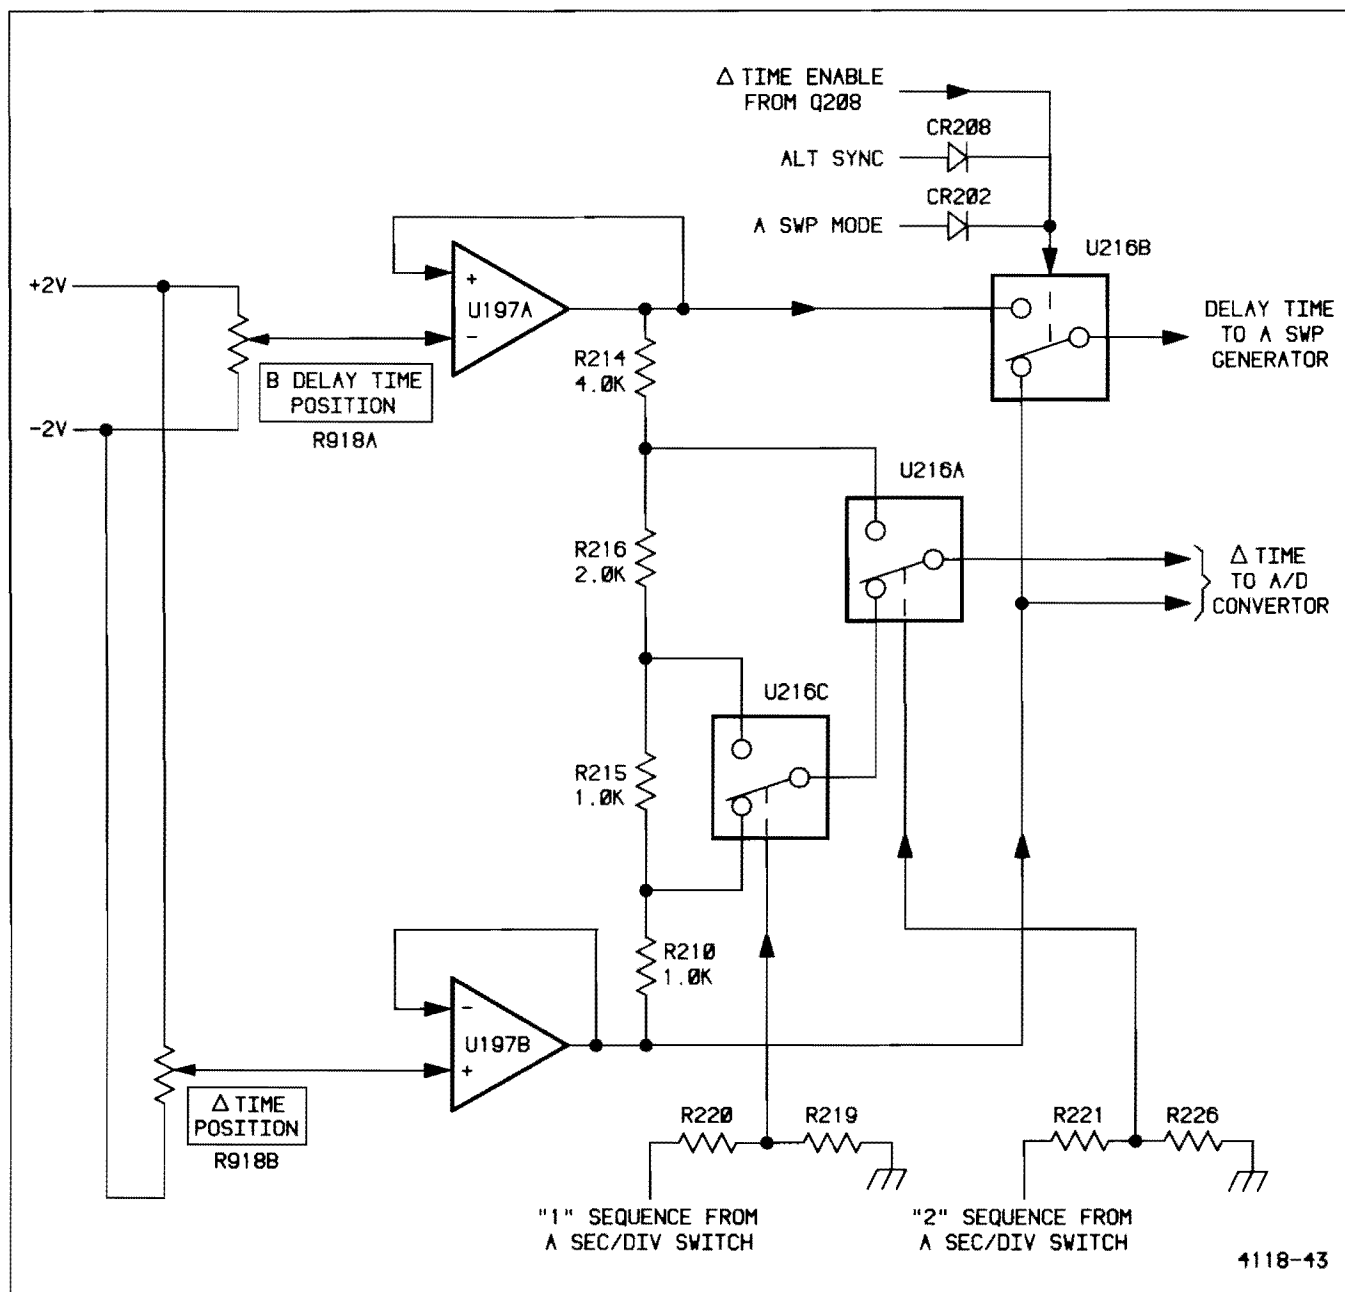

Figure 3-18. Simplified diagram of the Delay Time Switching and Prescaling circuit.
**DELTA TIME PRESCALING CIRCUIT.** The voltage supplied by the two delay controls for a given separation of the two intensified zones does not change with the A SEC/DIV switch setting. However, the separation of the intensified zones on the crt represents a time difference that is not the same for each A SEC/DIV switch setting. The Prescaling circuit, shown in Figure 3-18, converts the voltages from the delay controls into a voltage difference that is proportional to the displayed time difference at each sweep speed. A switchable voltage divider composed of R214, R216, R215, and R210 is controlled by the A SEC/DIV switch to produce the required prescaling.